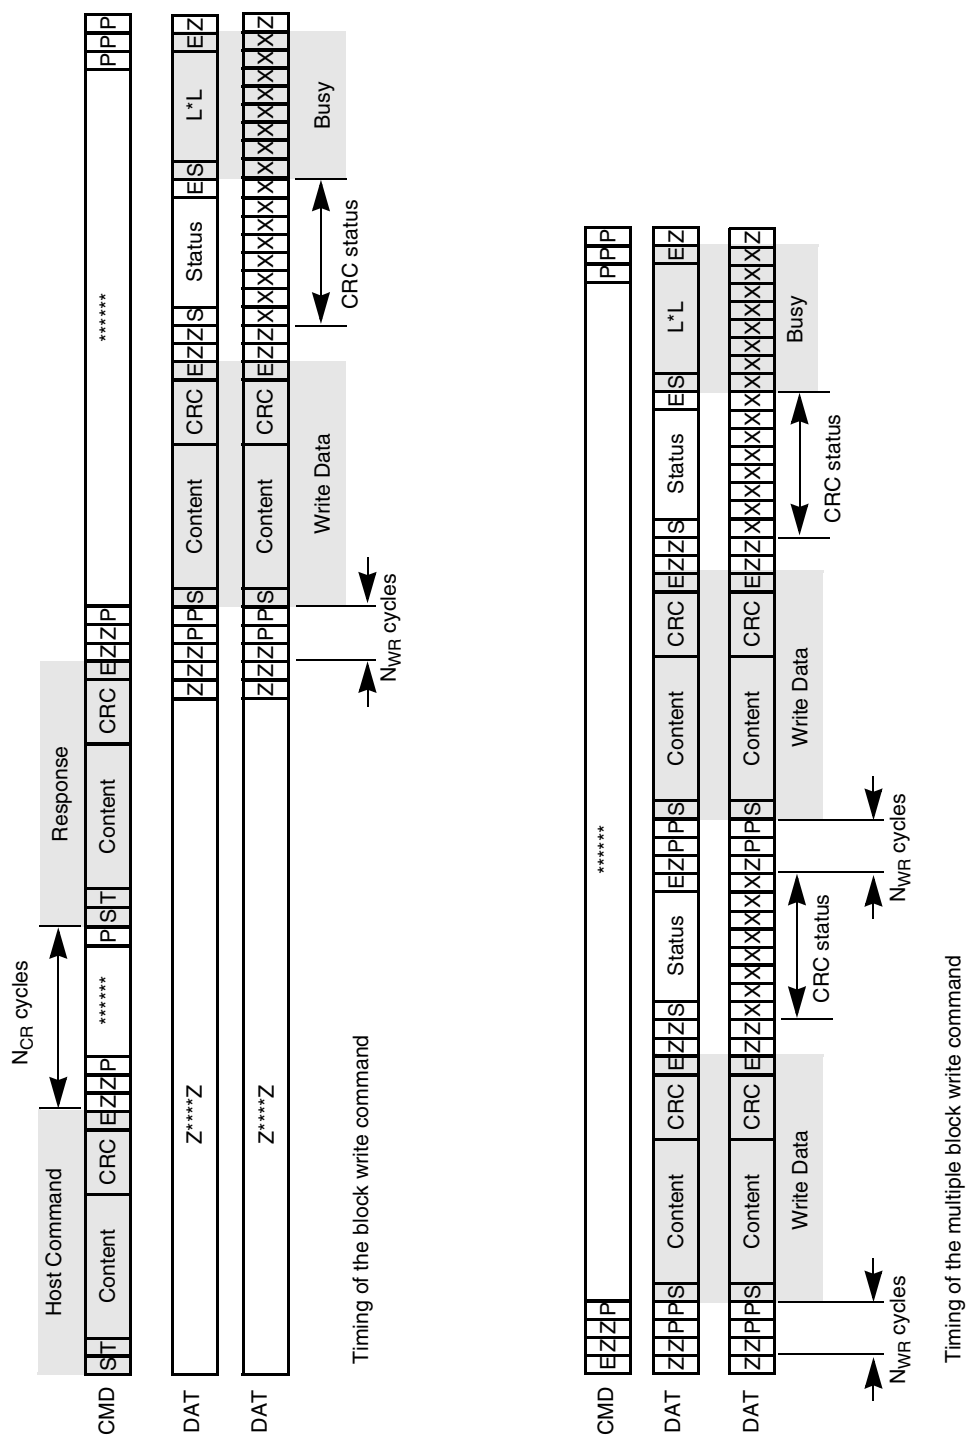

Figure 42. Timing Diagrams at Data Write
Figure 42 shows the basic write operation timing. As with the read operation, after the card response, the data transfer starts after  $N_{WR}$  cycles. The data is suffixed with CRC check bits to allow the card to check for transmission errors. The card sends back the CRC check result as a CC status token on the data line. If there was a transmission error, the card sends a negative CRC status (101); otherwise, a positive CRC status (010) is returned. The card expects a continuous flow of data blocks if it is configured to multiple block mode, with the flow terminated by a stop transmission command.